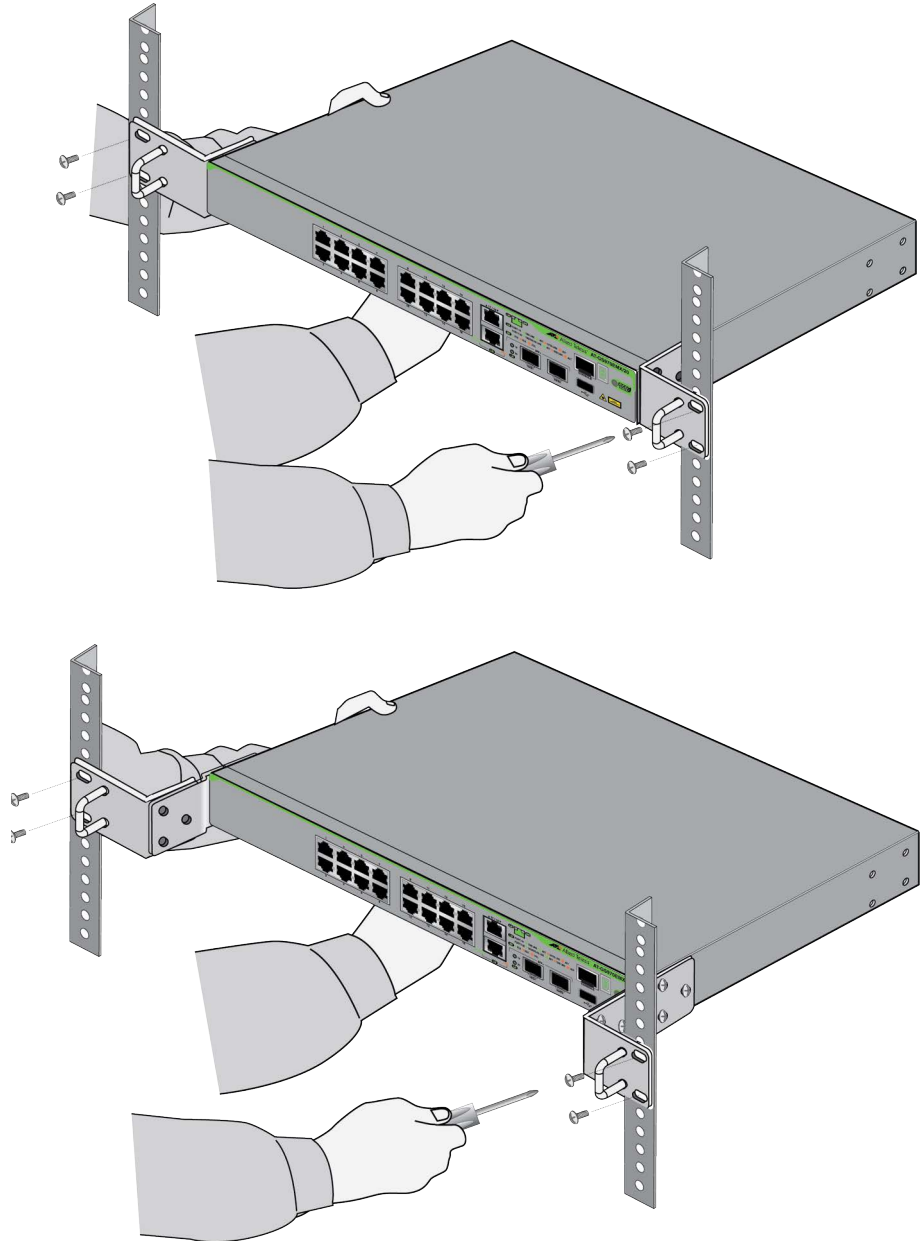

Figure 39. Securing the GS970EMX/20 Switch in a Standard 19-inch Equipment Rack
6. Have another person hold the switch at the selected location in the equipment rack while you secure it using four standard equipment rack screws (not provided). Refer to Figure 39.